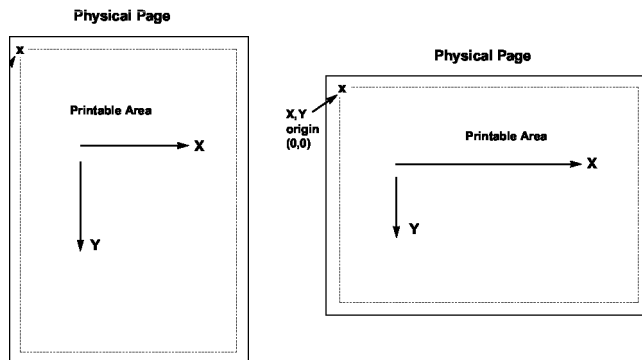

Figure 1
1. All xy values (start, end, center, increment) are measured in n/300 of an inch. The origin of the xy coordinate system is the top left hand corner of the printable area of the page (see Figure 1).
2. To determine the printable area of the paper, we printed a box using 0;0 as the x;y -start coordinates. This was done by typing `-GB1;0;0;300;300;50` on the screen and sending it to the printer. The top left corner of the printed box marks the top left corner of the printable area of the page. For reference, we drew the printable area on the blank sheet of paper. All references to distances are made in respect to the printable page, not the actual physical page. Refer to Figure 1.